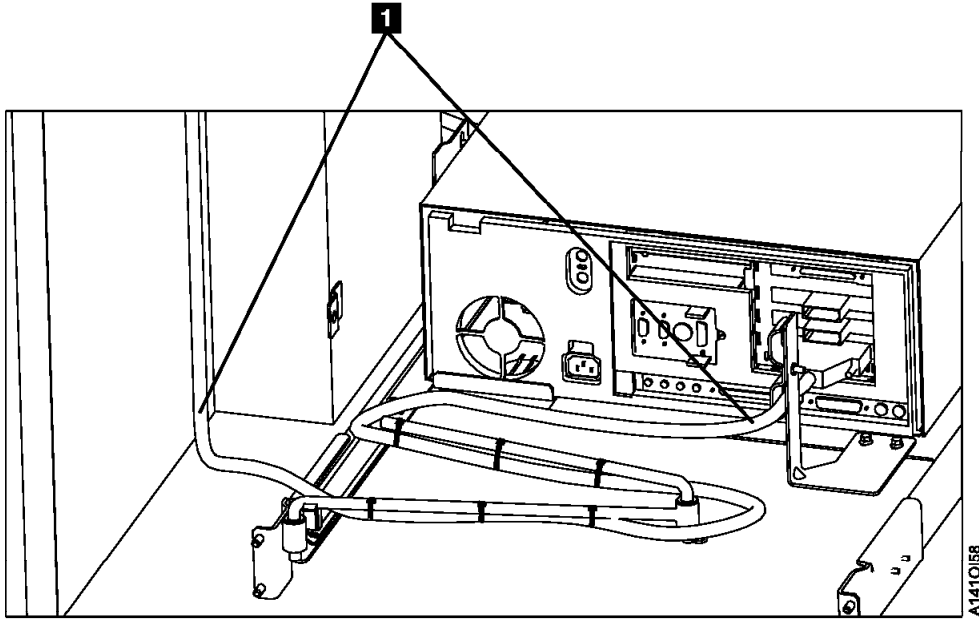

Figure 6-16. A50 Cable Locations
- \_\_\_ 13. Route the service terminal cable to the side of the A14 and up the frame. Refer to Figure 6-16 on page 6-34.
- \_\_\_ 14. Route the Op Panel cable to the side of the A14, up the frame and over to the Operator Panel. Refer to Figure 6-16 on page 6-34.
- \_\_\_ 16. Clamp cable in cable clamp provided on the tray. Refer to Figure 6-16 on page 6-34 **1** .
- \_\_\_ 17. Install articulating arm. Refer to Figure 6-16 on page 6-34.
- \_\_\_ 19. Dress the cables up the side of the frame to the operator panel and the bulkhead. Use cable clamps as needed to dress the cables to the articulating arm. Refer to Figure 6-16 on page 6-34 and Figure 6-16 on page 6-34.